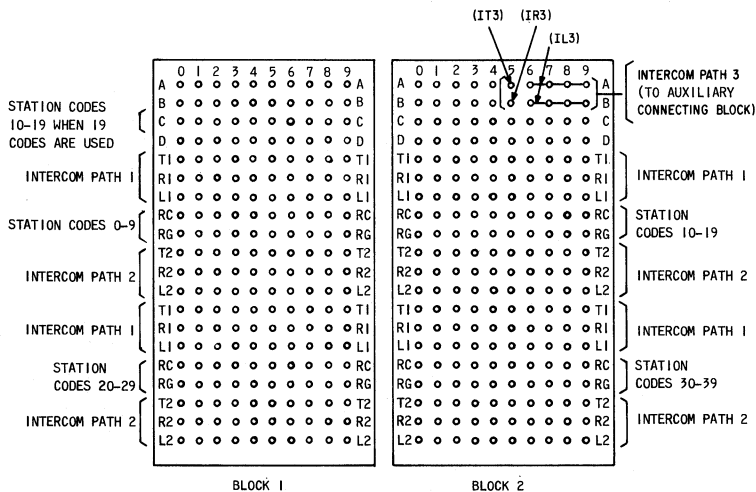
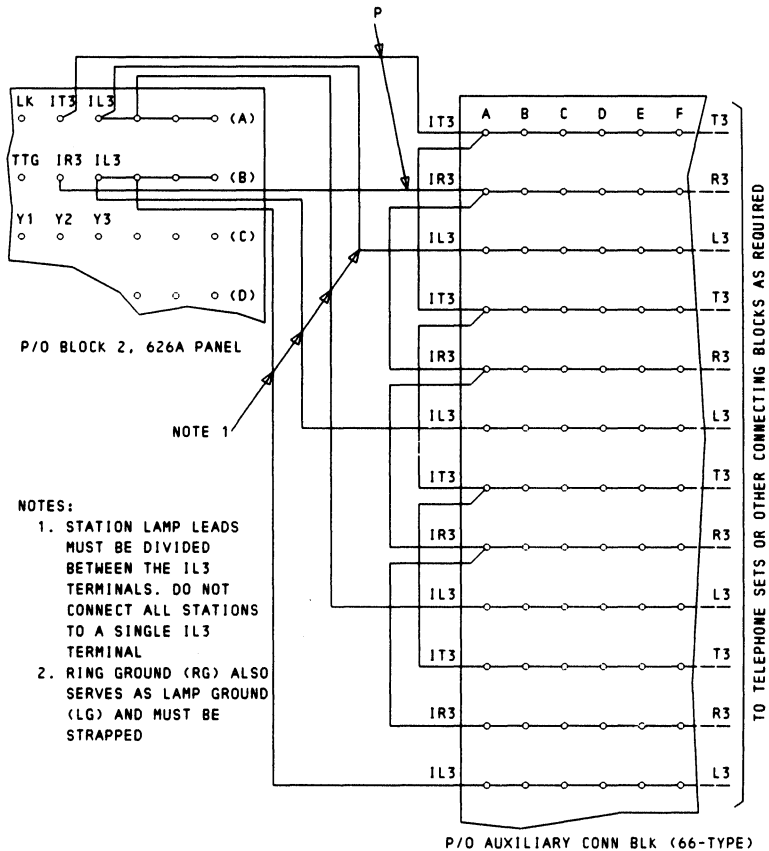

Fig. 4—Intercom Path and Station Code Terminations, 626A Panel
Fig. 5—Typical Arrangement for Connecting Stations to Third Intercom Path
2.05 The lower section of the 626A panel has two connecting blocks, light yellow in color, that contain 66-type quick-connect terminals (Fig. 4). These blocks are 20 terminals high by 10 terminals wide. The upper 4 horizontal rows of the connecting blocks contain power option and function terminals to interconnect the various intercom arrangements and optional features. The lower 16 horizontal rows of the connecting blocks provide the station cross-connect terminals for station codes and for the first- and second-path intercom stations. The third intercom path access circuit common leads are brought out on rows 1 and 2 of the second connecting block. Straps must be run to a separate 66-type connecting block (Fig. 5) for distribution to the third-path intercom station.
connecting block (Fig. 5) is required to connect the common leads.
Where a third intercom path is used, an external (66-type) connecting block (Fig. 5) is required to connect the common leads.